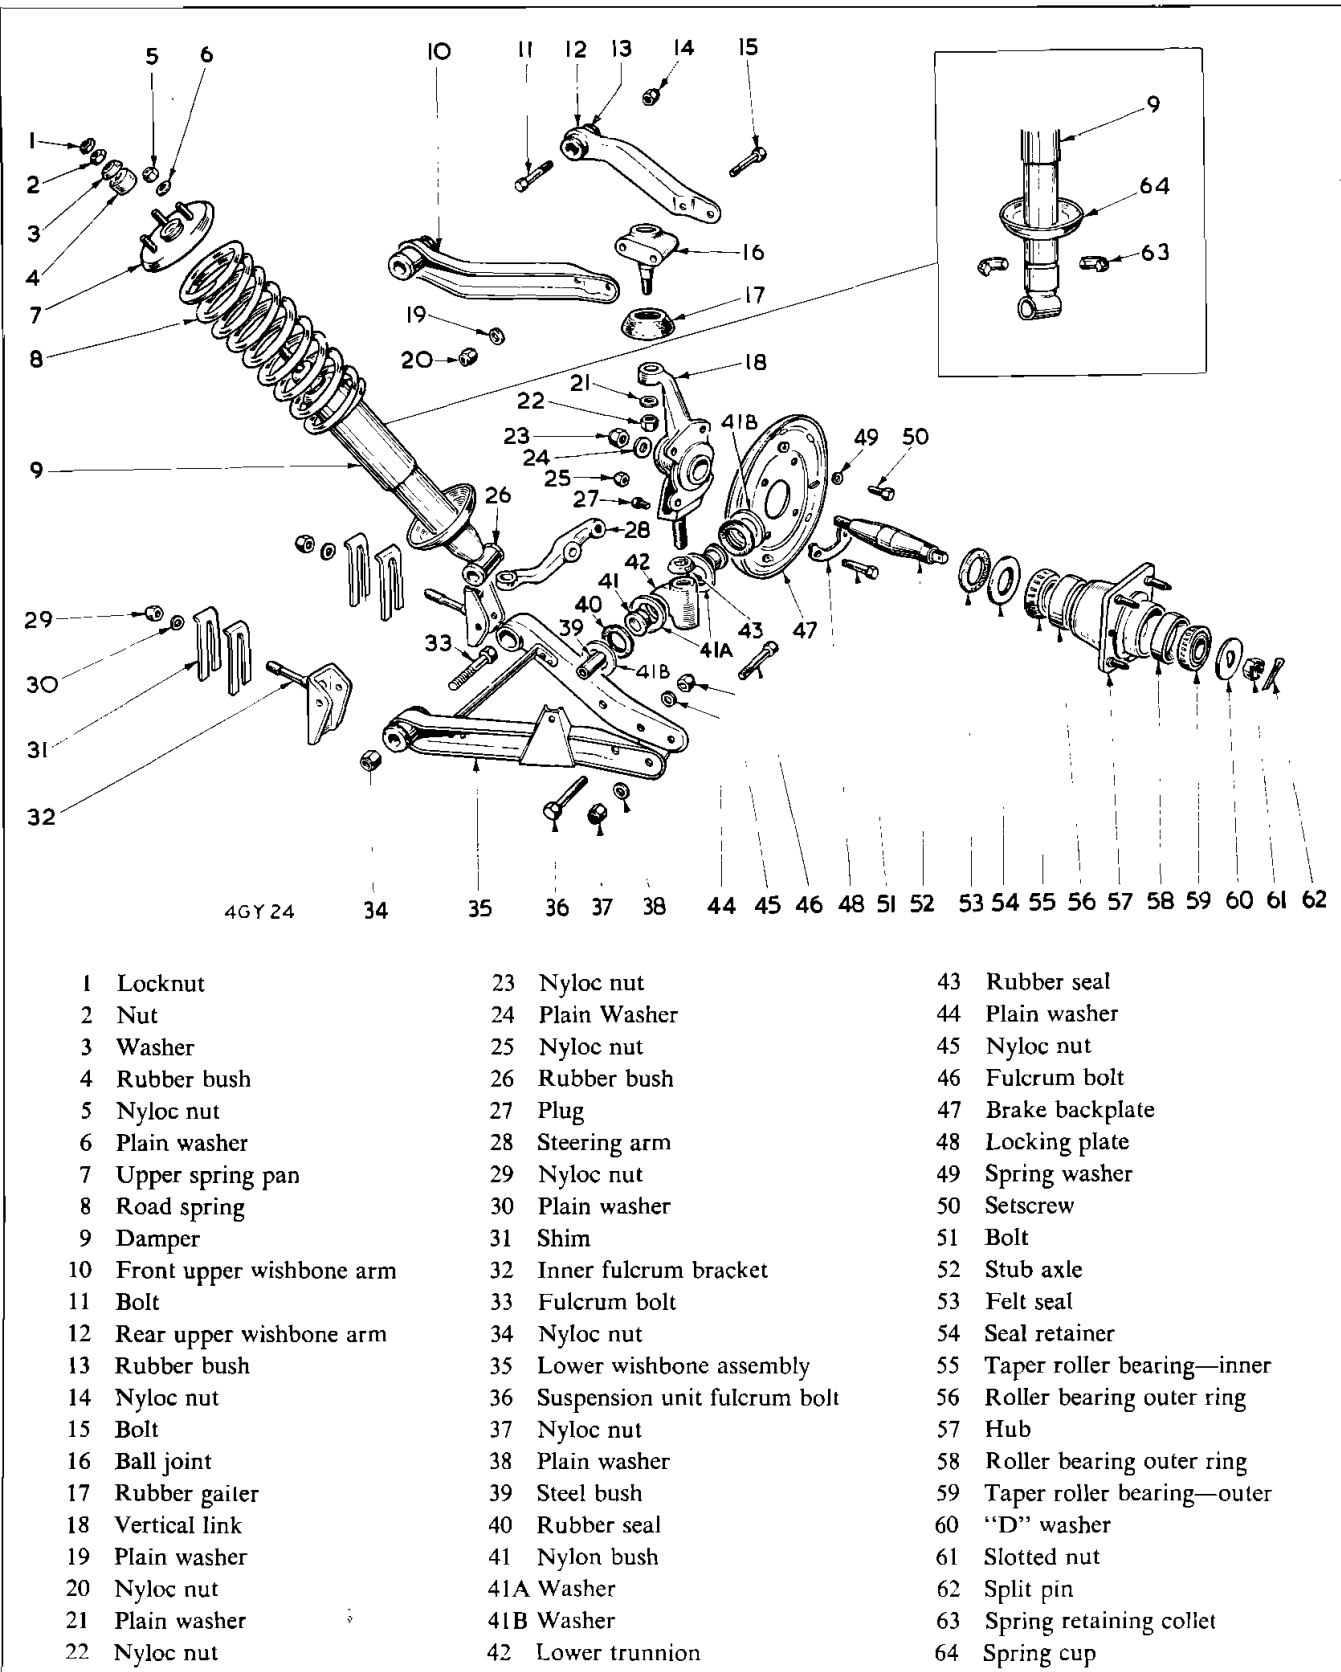
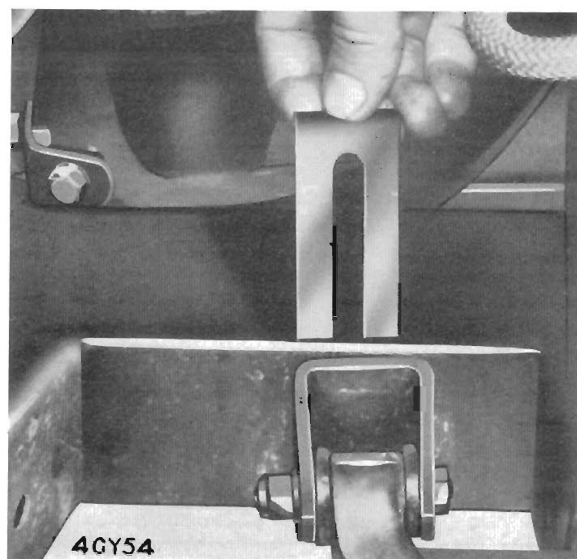

Fig. 6. Exploded front suspension. Inset Woodhead-Monroe type
Fig. 23. Fitting shims between lower inner fulcrum bracket and chassis frame
**Dismantling Suspension (Fig. 6)**
#### Front Suspension Re-Assembly (Fig. 6)
11. Secure the upper (10 and 12) and lower wishbone (35) and inner fulcrums (32) to the chassis and sub-frame, ensuring that the shim packs are correctly located between the fulcrum brackets and chassis frame as shown on Fig. 23. Do not tighten bolts 36, 11 and 33, Fig. 6, at this stage.
16. Refit the road wheels and lower the vehicle to the ground. To allow the rubber bushes to assume their correct working position, load the car before tightening the inner fulcrum bolts (11 and 33) and the damper lower attachment bolt (36). Check the caster, camber and front wheel alignment.